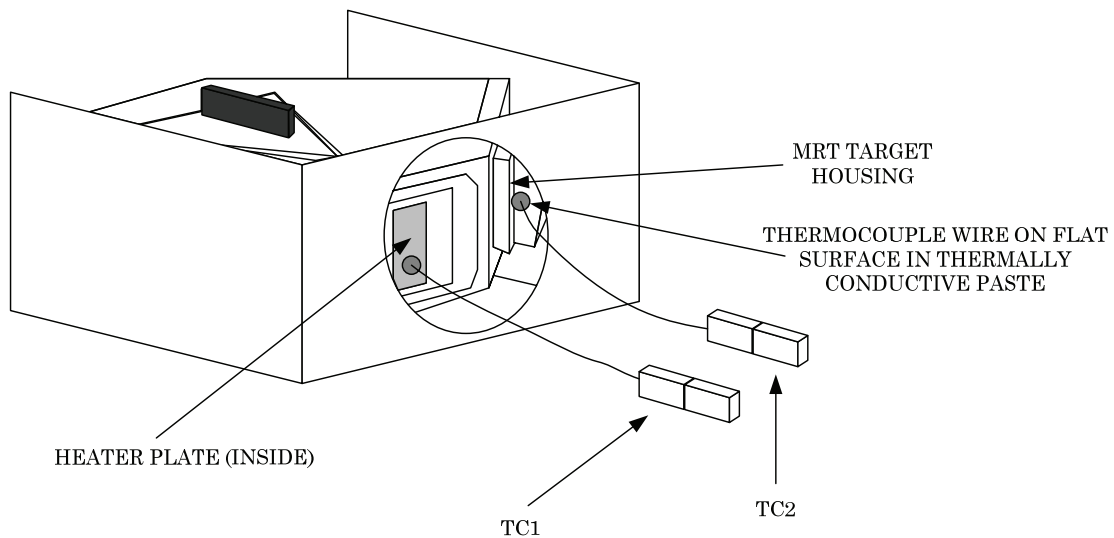

Figure 8. Repositioning TC2 thermocouple wire to MRT target housing.
(9) Daub a small amount of thermally conductive paste on left side (flat surface) of **MRT** target housing and place tip of thermocouple No. 2 (TC2) (fig. 8) in thermally conductive paste.